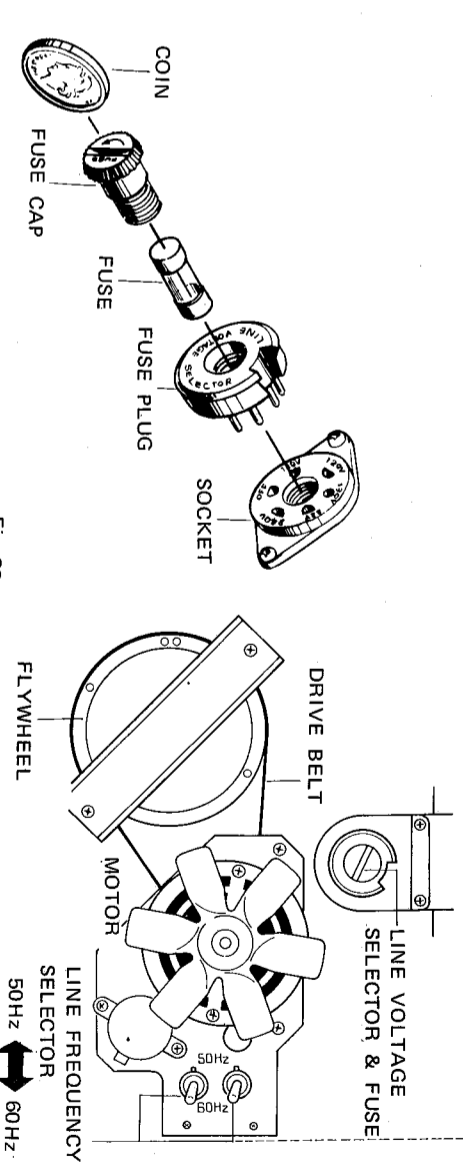

Fig. 21
9.2 SWITCHING LINE VOLTAGE SETTING AND FUSE (Figs. 21, 22)